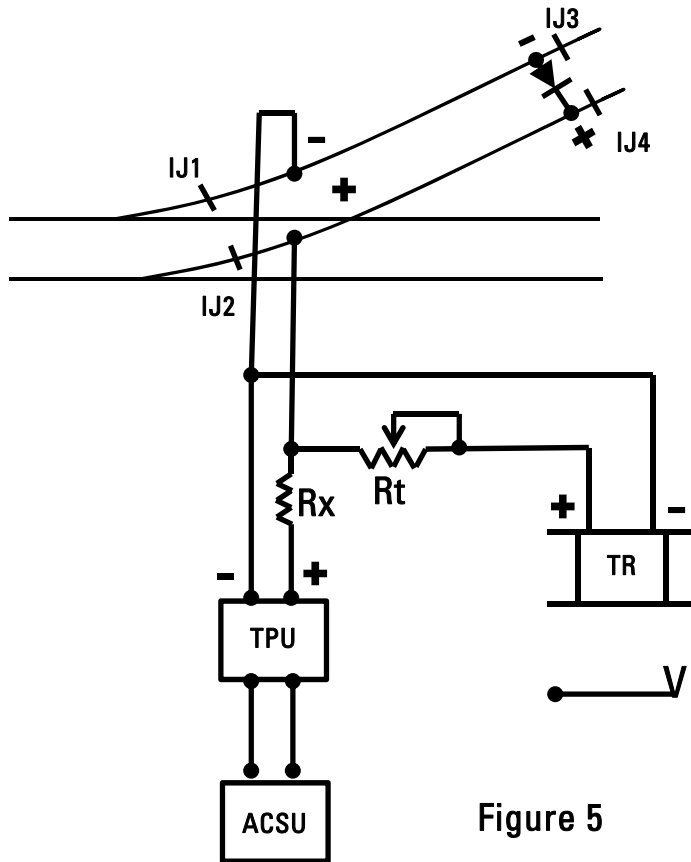
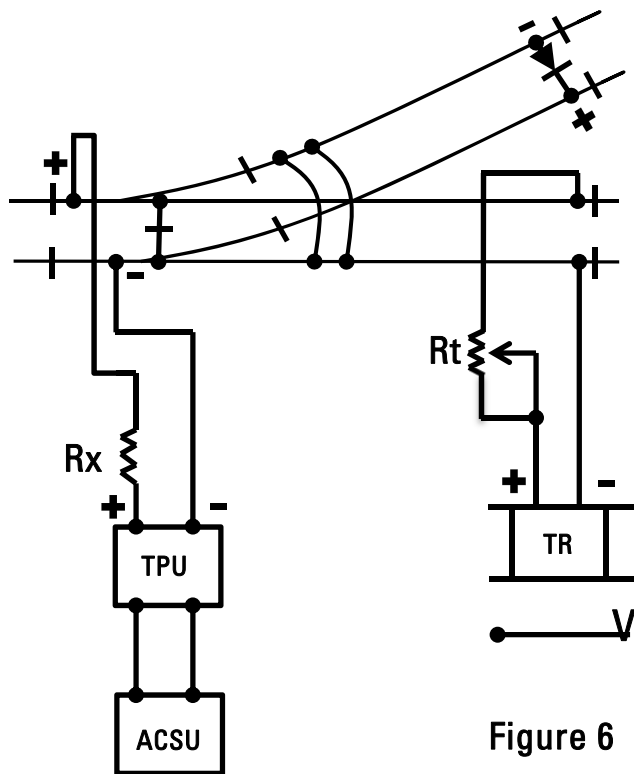

Figure 5
Figure 6
- B. For Fouling Circuits, the single-ended AC/DC track circuit eliminates a long cable run or an equipment housing at one end on the circuit (see figure 5).
- C. For OS Circuits, the key elements of the AC/DC track circuit (the AC/DC power feed, the track relay, and the diode) can be distributed in such a way as to allow direct shunting, as opposed to indirect or foul shunting, throughout the OS circuit (see figure 6). This configuration also provides a positive check of the fouling jumper wires. If the wires break, the track relay will de-energize, indicating occupancy.
Referencing the accompanying figure 5 (Fouling Circuit) and figure 6 (OS Circuit), the following notes apply:
5. In figure 5: